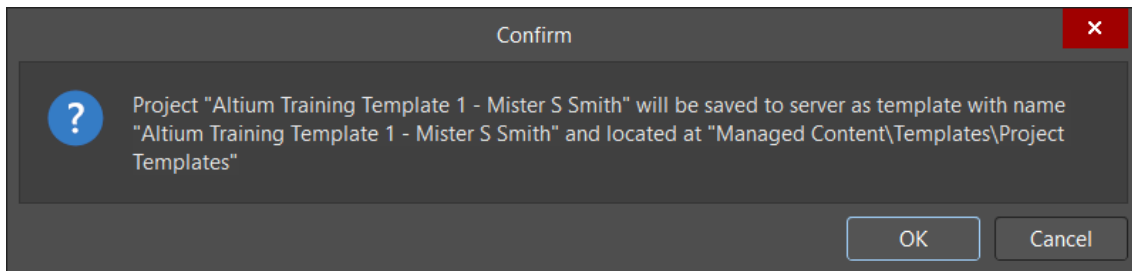

Figure 5. Confirm to create the Project template
- a) A *Confirm* dialog with information about the name and location for the template pops up, Figure 5.